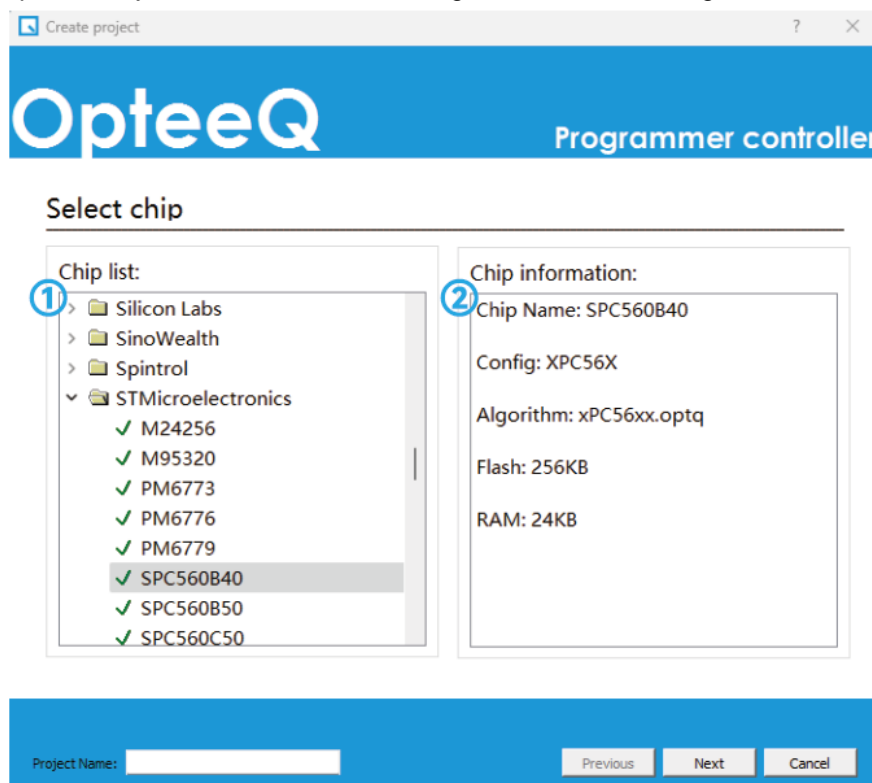

Figure 4.12 Step 2 - Project Creation Interface
2) Step 2: Pop up the "Project Creation Wizard" dialog box, as shown in Figure 4.12.
It is needed to select a target chip to be programmed in the chip list (as shown in Figure 4.12-①).
Show the information of the corresponding chip after a target chip is selected (as shown in Figure 4.12-②).
Click "Next" after confirmation (as shown in Figure 4.12-③).